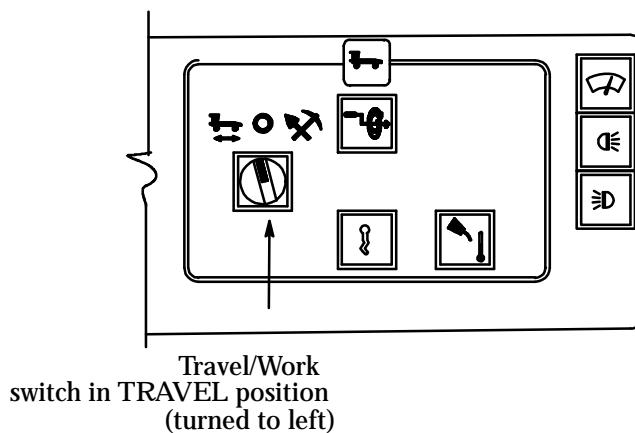

Figure 3–2: Travel/Work switch
Refer to Figure 3–2.
7. Select the travel speed using the toggle switch which is located on the side of the left console. (Swivel head control box) Refer to Figure 3–3.